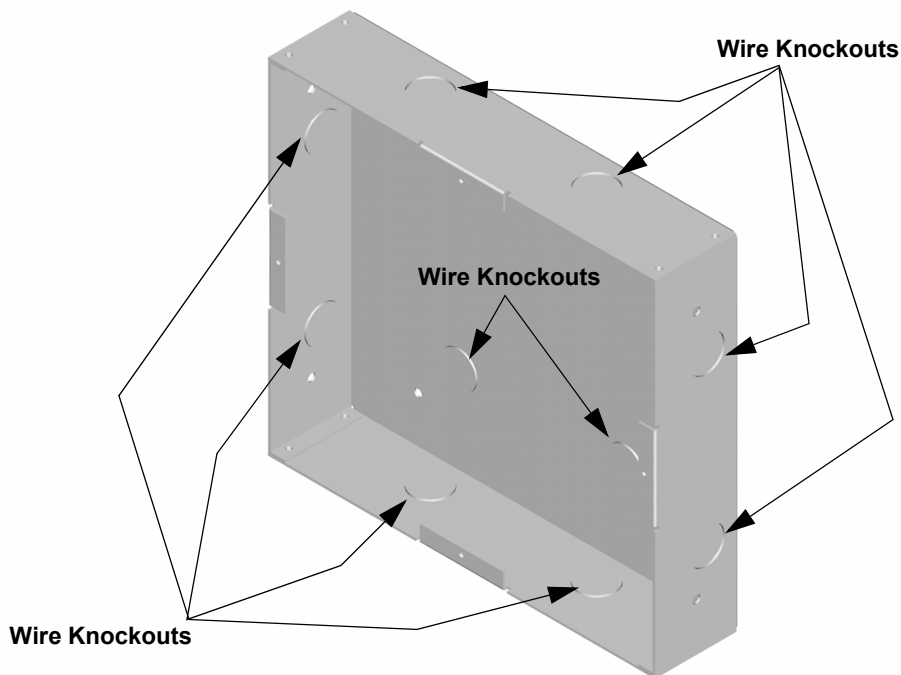

Figure 4.13 Backbox Knockout Locations
2. Remove knockout holes as needed for wires. See Figure 4.13 for backbox knockout locations.
1. Remove the desired knock out. See Figure 4.13.